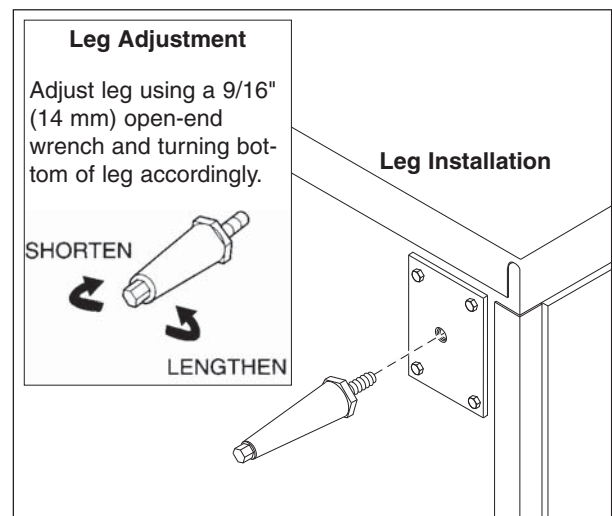

Figure 6. Adjustable Legs
3. Carefully lay unit on its side (requires 2 people). Install legs to bottom of unit as shown in Figure 6. Hand tighten legs until snug. Do not overtighten.